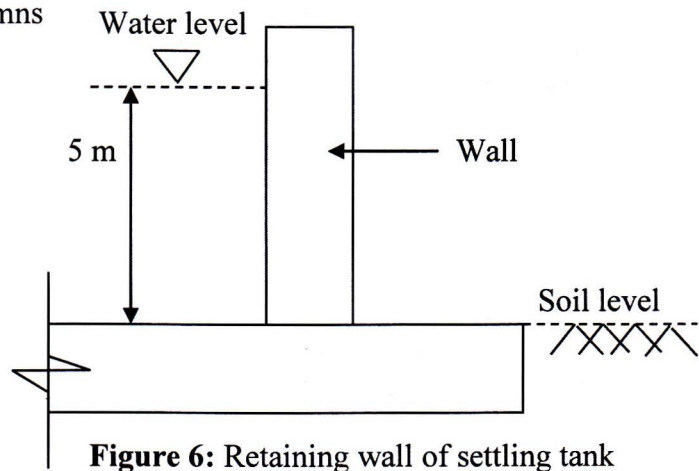

Figure 6: Retaining wall of settling tank
- b. A settling tank of mini hydro power plant is constructed with retaining wall as shown in **Figure 6**. The density of water is 1000 kg/m³. Design the wall for moment. Assume the required thickness of wall, cover is 75 mm and diameter of main reinforcement is 16 mm. As per ACI, the basic span depth ratio of cantilever slab is 10. [5]